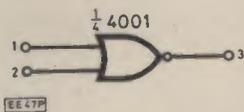

Fig. 10.9. A 2-input NOR gate. Four such gates are contained in the 4001 i.c., as shown on the accompanying EBBO layout (Fig. 10.10).
The gate we'll use is part of a 4001UB integrated circuit. Its symbol (Fig. 10.9) shows two inputs (1, 2) and one output (3). The little circle at the apex indicates that it's an inverting gate. That is, its output goes low when its input is high. Which input? In this case, either.